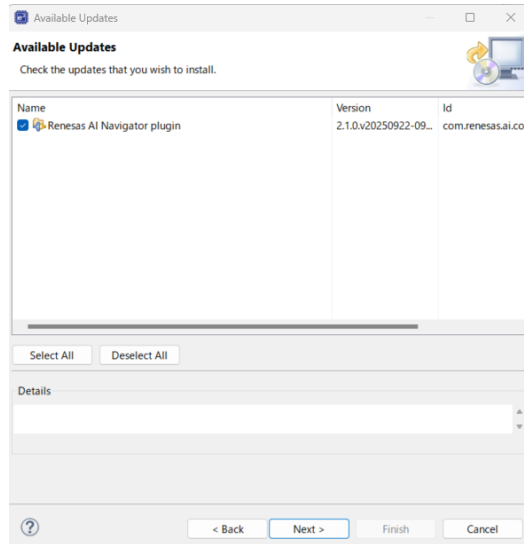

Figure 3.3 Install IDE feature (2)
(Refere to Figure 3.3 Install IDE feature (2))